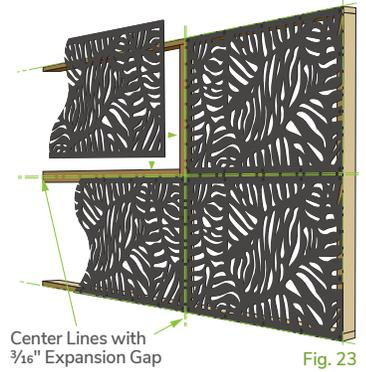

Fig. 23
- **Face-Cap or End-Cap:** Add trim boards or moulding as needed (Fig. 23).